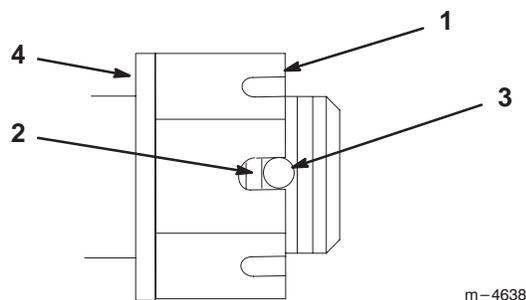

Figure 35
3. Torque slotted nut to 125 ft-lbs (169.5 N•m) (Fig. 35).
4. Check the distance from bottom of slot in nut to inside edge of hole. Two threads or less should be showing (Fig. 35).
5. If more than two threads are showing remove nut and install washer between hub and nut (Fig. 35).
6. Torque the slotted nut to 125 ft-lbs (169.5 N•m) (Fig. 35).
7. Tighten nut until the next set of slots line up with the hole in the shaft (Fig. 35).